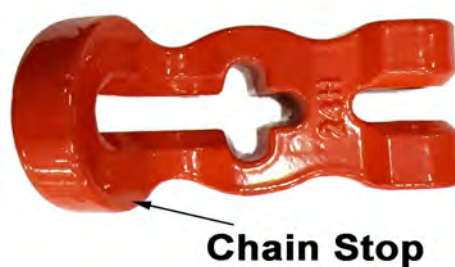

Figure 4
1. An Adjustable Chain Stop #49 must be securely attached to the last link on the slack end of the chain. Refer to Figure 4.